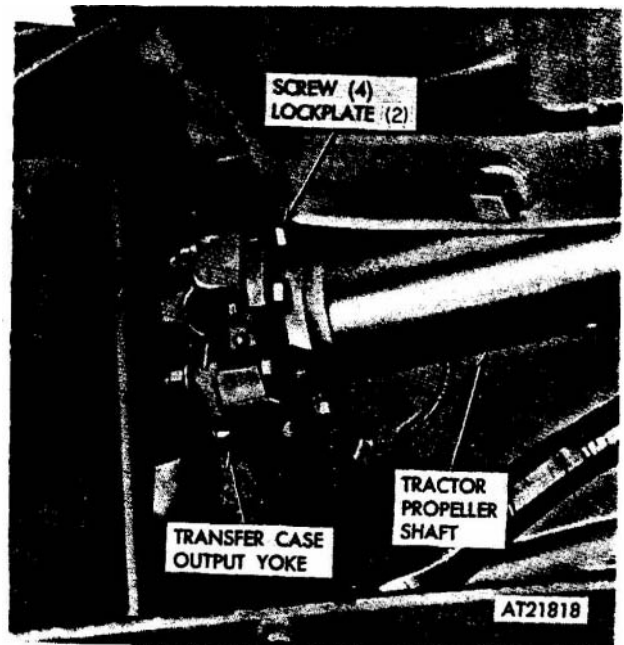

Figure 2-165. Transfer assembly (at propeller shaft), removal and installation.
(11) Remove transmission upper steady rest Pad.
(12) Remove four screws, washers, lock washers, and nuts securing steady rest support to tractor keel. Remove steady rest support, shims, and lower steady rest pad.
(13) Disconnect tractor propeller shaft at transfer case output yoke by removing four screws and lockplates (fig 2-165).
(14) Put transfer case in six wheel drive to lock gear in place.
(15) Remove six wheel drive, high and low shift control and linkage assembly (refer to para 2-138).
(16) Remove nine nuts, washers, and lock washers securing transfer case to front differential.
(17) Install suitable lifting eyes and lifting device to transfer case and pull transfer case toward rear of tractor to clear mounting studs from bulkhead and to clear the front differential input shaft.
(18) Turn transfer case slightly, so that parking brake drum clears transmission. Remove transfer case. Remove gasket from transfer case. Place on suitable blocks and remove lifting device.
(6) Secure transfer case to bulkhead and front differential with nine washers, lock washers, and nuts.
(7) Position and secure tractor propeller shaft to transfer case output yoke with four screws and lockplates. Torque screws to 3545 lbs-ft. Bend tabs of lock plates to secure screws (fig 2-165).
(8) Install high and low shift and six wheel drive control and linkage assembly (refer to para 2-138).
(9) Install parking brake lever and rod (refer to para 2-159).
(10) Position transmission steady rest bracket to transmission and secure with four screws and lock washers.
(11) Install and adjust steady rest (refer to **para 2-33**).
(12) Position and secure coupling assembly to
(4) Remove four screws and lock plates securing shaft assembly to transfer case yoke (fig 2-165).
four screws and lock plates and to center differential with four screws and lock plates. Torque screws to 34-40 lbs-ft. Bend tabs on lock plates to *secure screws* (figs 2-165 and 2-170).